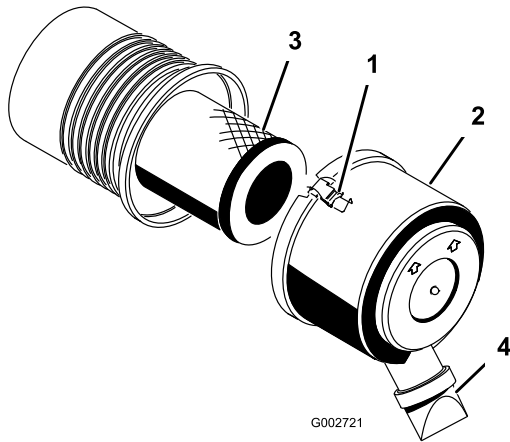

Figure 29
1. Release the latches securing the air-cleaner cover to the air-cleaner body (Figure 29).